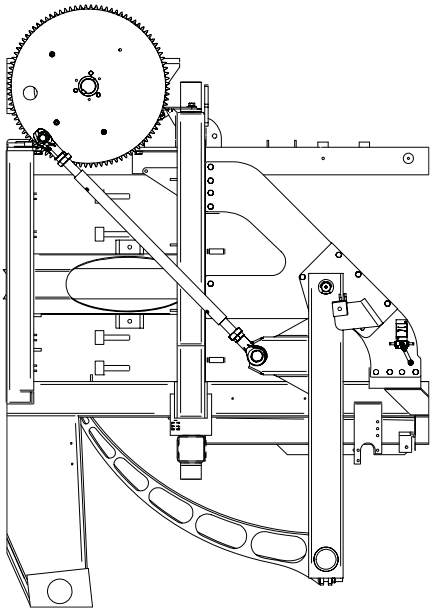

Figure 5-28 Twine Needle Yoke in Mid-Stroke Position
3. Using the DOWN button, drive the needle yoke until they are at mid-stroke (see Figure 5-28).